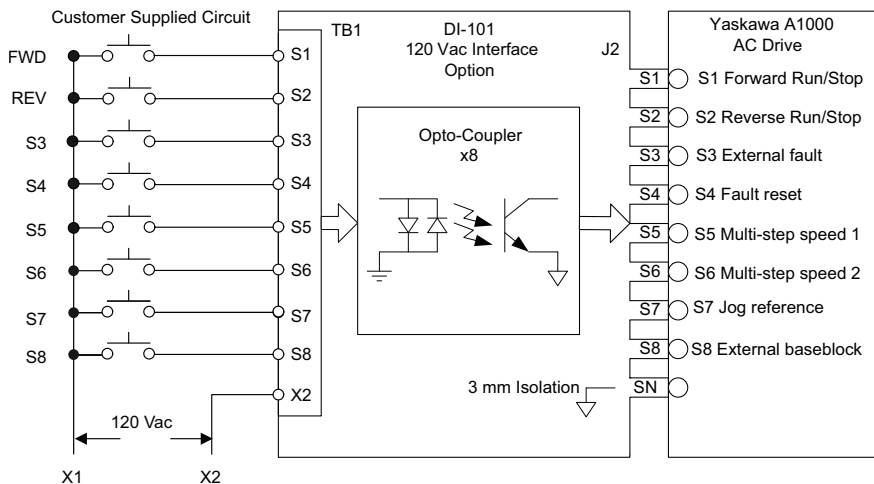

Figure 6.7 Wiring Diagram Example
7. Connect the customer wiring to the DI-101 option terminal block. Refer to Figure 6.7 for a wiring diagram example showing customer interface circuitry. Refer to Wire Gauges, Tightening Torques, and Crimp Terminals on page 26 to confirm that the proper tightening torque is applied to each terminal. Take particular precaution to ensure each wire is properly connected and wire insulation is not accidentally pinched into electrical terminals.